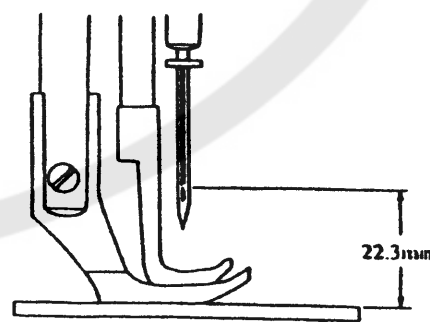

Fig.15
17.ADJUSTING THE HEIGHT OF THE NEEDLE BAR(Fig.15):